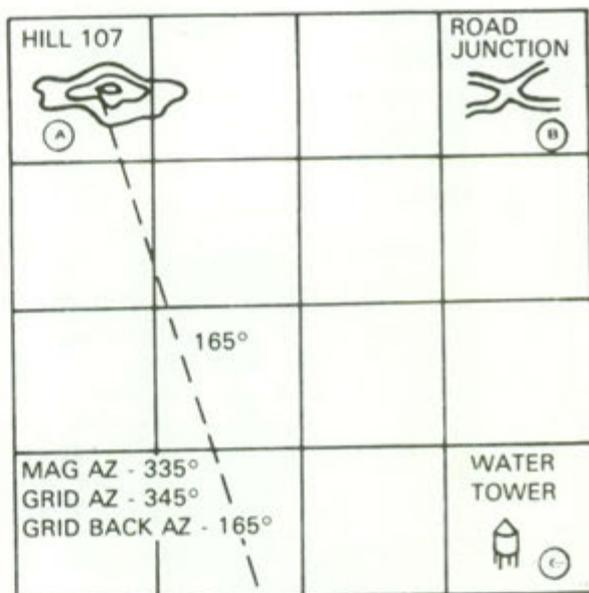

Figure 1b.
**STEP 3:** Measure the magnetic azimuth to one of the known locations: change this to a grid azimuth (figure 1b).